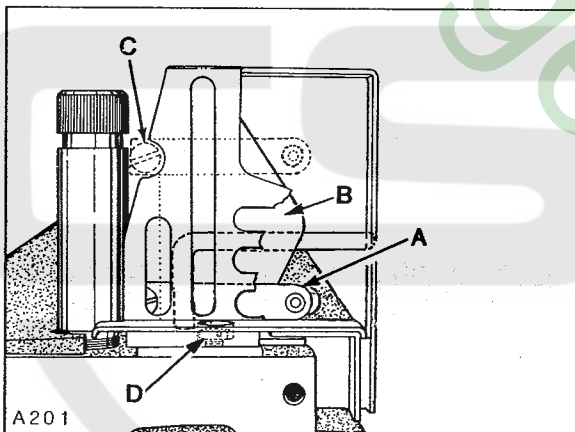

Fig. 28
Needle bar eyelet (A, Fig. 28) and needle thread cam (B) should be set in conjunction with each other so needle thread just contacts needle thread cam (B) at TOP and BOTTOM of stroke.